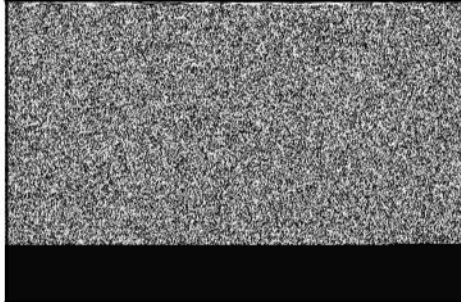

Figure 22
10. Place muffler guard over muffler and start screws (**A, B, C**, Figure 22). Torque to values listed in Section 12 - Engine Specifications.